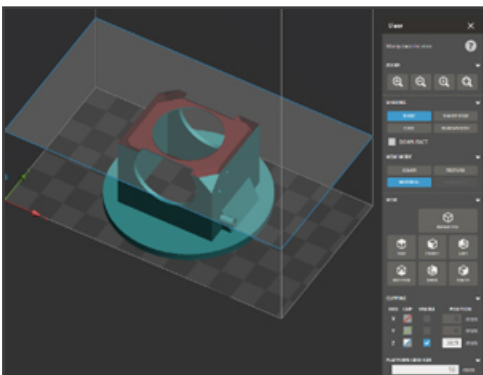

Figure 5. Large cross sectional area. Shows two areas with approximate 8x35mm cross sectional areas.
**Enable Tip 1, Tip 2, and Tip 3** – Once considering the items described in Tips 1-3, the part can be oriented. The Transform window in 3DSprint™ can be used to orient the part back 45-degrees toward the Y-axis. Note the change in cross section being printed on this layer compared to the orientation in Figure 5. The following images show the considerations from Tip 1-3.